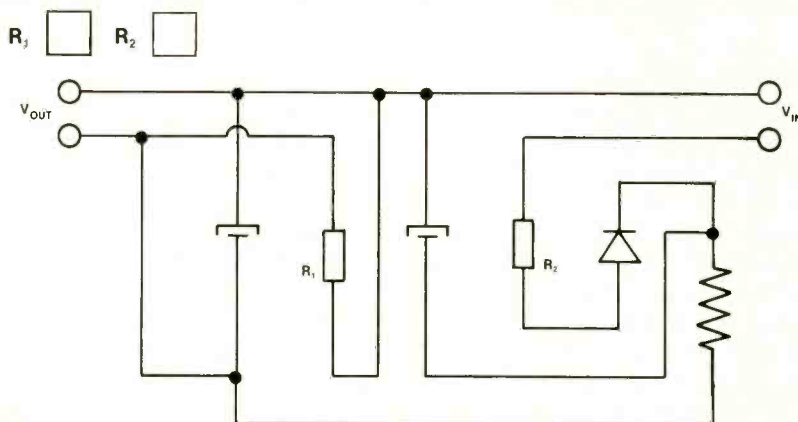

Figure 3.
**Figure 3.** This photo shows a magnified image comparing a new video head (left) with a worn head (right). The new head protrudes 0.0019 inches beyond the head drum, while the worn one only protrudes 0.0005 inches. The line between the two, 0.002 inches wide, will give some idea of the magnitudes being shown. The color inset is a closeup of the video head that will give some idea of the angle from which the head wear photos were taken. See page 26.